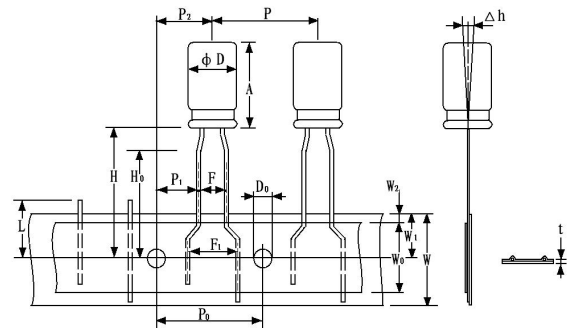
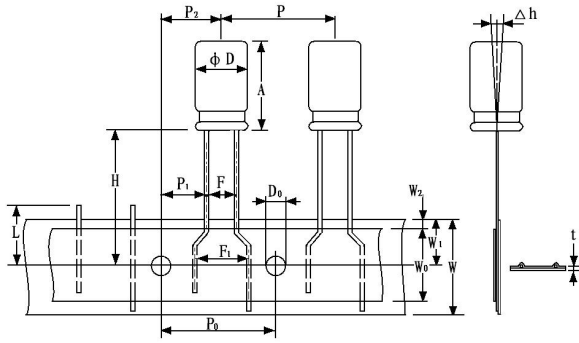

Fig2
Fig3
-0.2	Fig 2: $\phi 5$ Fig 3: $\phi 6.3$